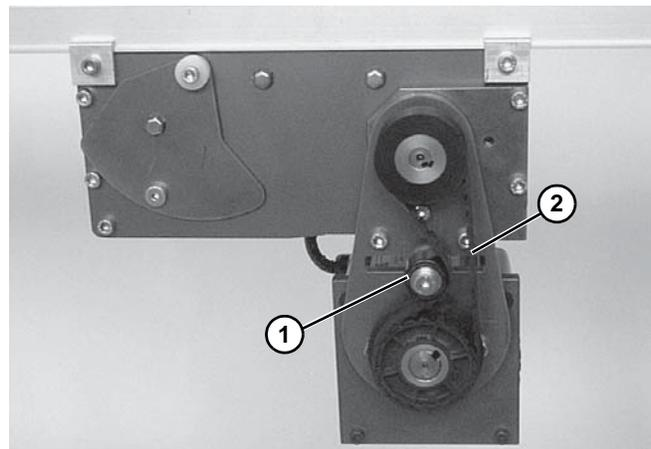

Figure 49
- Loosen belt tensioner (**Figure 49, item 1**) then remove timing belt (**Figure 49, item 2**).